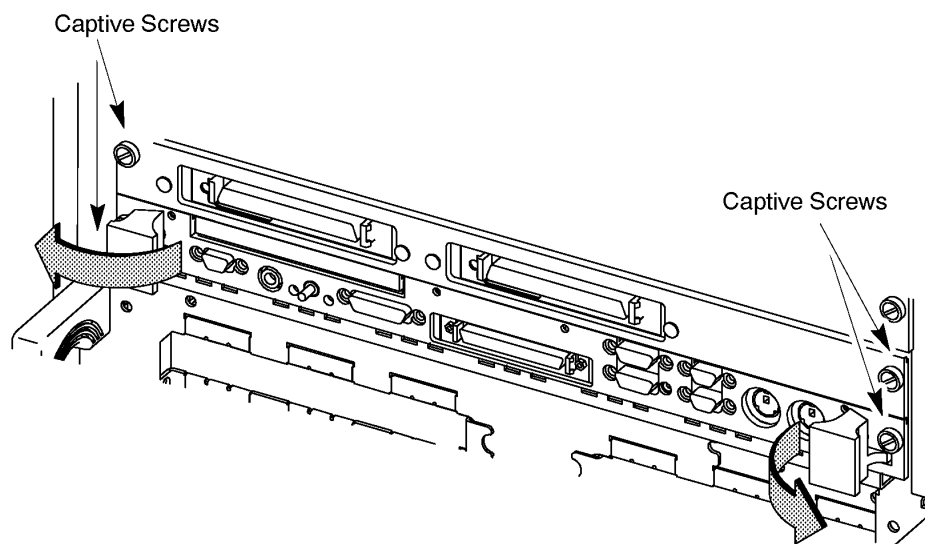

Figure 1
- 3 Using a flat-tipped screwdriver, unscrew the captive screws that secure the board computer in the card cage, as shown in Figure 1.